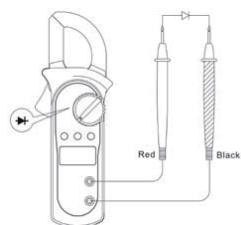

Figure 6
D. Testing Diodes (See Figure 6)**⚠ Warning**